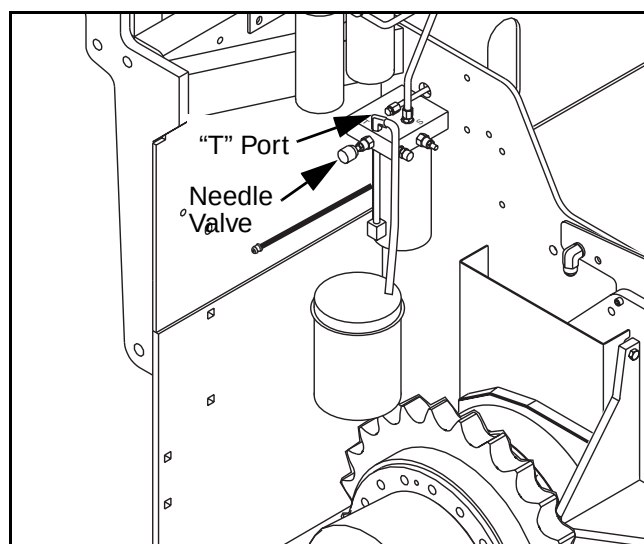

Figure 6 - 22 Adjusting Steel Track Tension
- 1) Disconnect the line from the "T" port on the track tension cylinder. Install a plug into the disconnected line. (Figure 6 - 22)